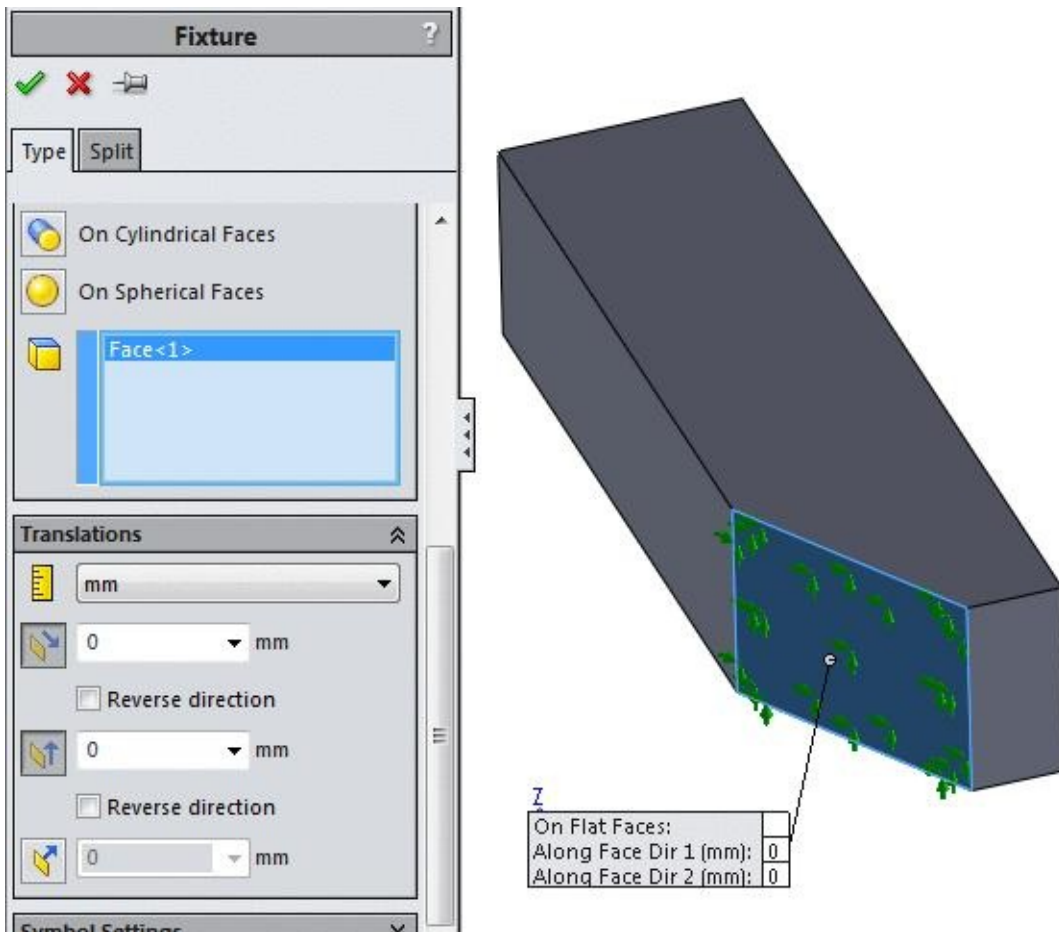

Figure-30. Preview of on flat faces fixture
- You can click on more than one button to constrain more directions; refer to Figure-30.